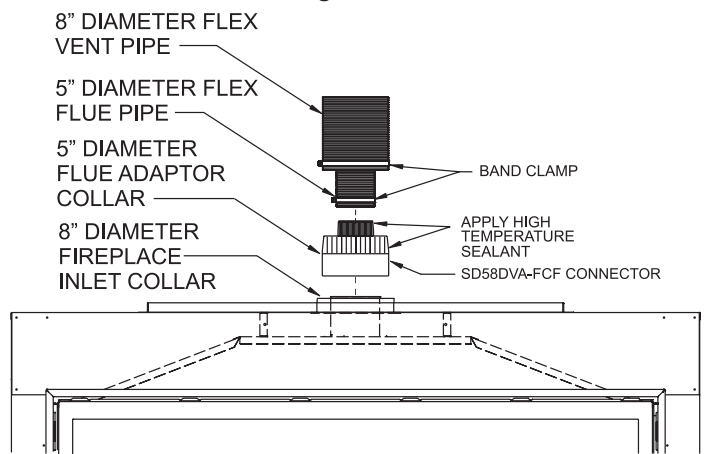

Figure 62b
**NOTE:** For installation of Flex Venting on Fireplaces that have Flue and Inlet Vent collars flush with top of the fireplace, it is recommended that an SD58DVA-FCF Connector be used. When using the SD58DVA-FCF Flex Vent Connector, it will require removing (or cutting off) the 5" diameter adapter from the DVVK5F Flex Flue. See Step 10b and Figure 62b.
**NOTE:** For installation of Flex Venting on Fireplaces that have Flue and Inlet Vent collars flush with top of the fireplace, it is recommended that an SD58DVA-FCF Connector be used. When using the SD58DVA-FCF Flex Vent Connector, it will require removing (or cutting off) the 5" diameter adapter from the DVVK5F Flex Flue. **See Step 10b and Figure 62b.**
- Apply sealant to the outside of the flue pipe adapter and connect to the flex flue pipe. Then insert the adapter into the fireplace flue. Secure the flue adapter to the fireplace flue with a minimum of two screws provided. **See Figure 62b.**
- If using the SD58DVA-FCF Vent Connector, apply sealant to the inside of the 5" diameter flex flue pipe, then connect the flex flue to the 5" flue takeoff on the SD58DVA-FCF Connector. Use a 5" diameter band clamp and a minimum of two screws to secure the flex flue to the SD58DVA-FCF Connector. **See Figure 62b.**